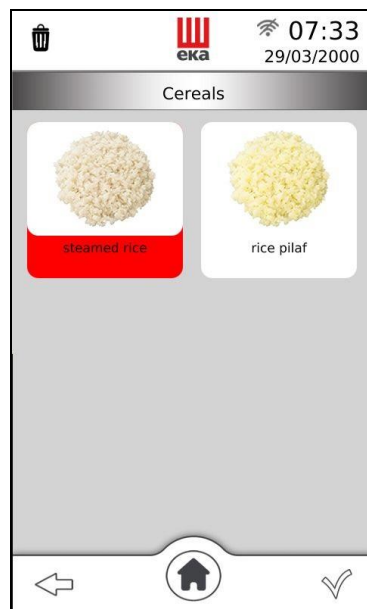

Fig. 28
- Touch the symbol  and select the recipe you want to delete: the name of the recipe is highlighted on a red background (Fig. 28)